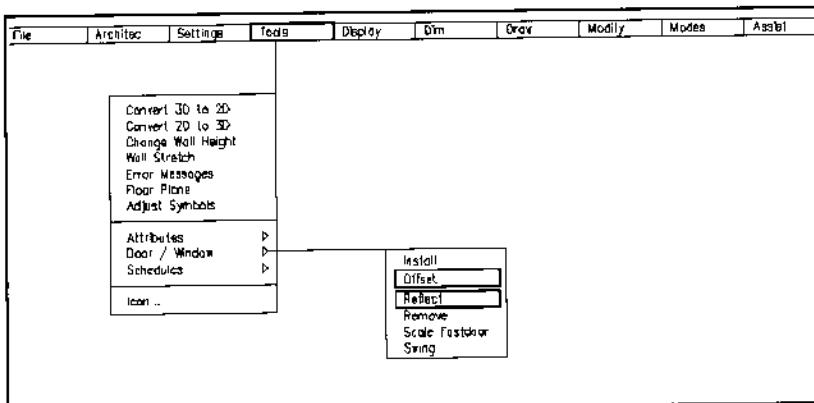

Figure 16.
1. Use the door Tools menu shown in Figure 16 to make changes to your doors and windows. The options and applications are discussed below.
2. Select Offset from the Door/Window submenu under the Tools pull-down menu as shown in Figure 16.